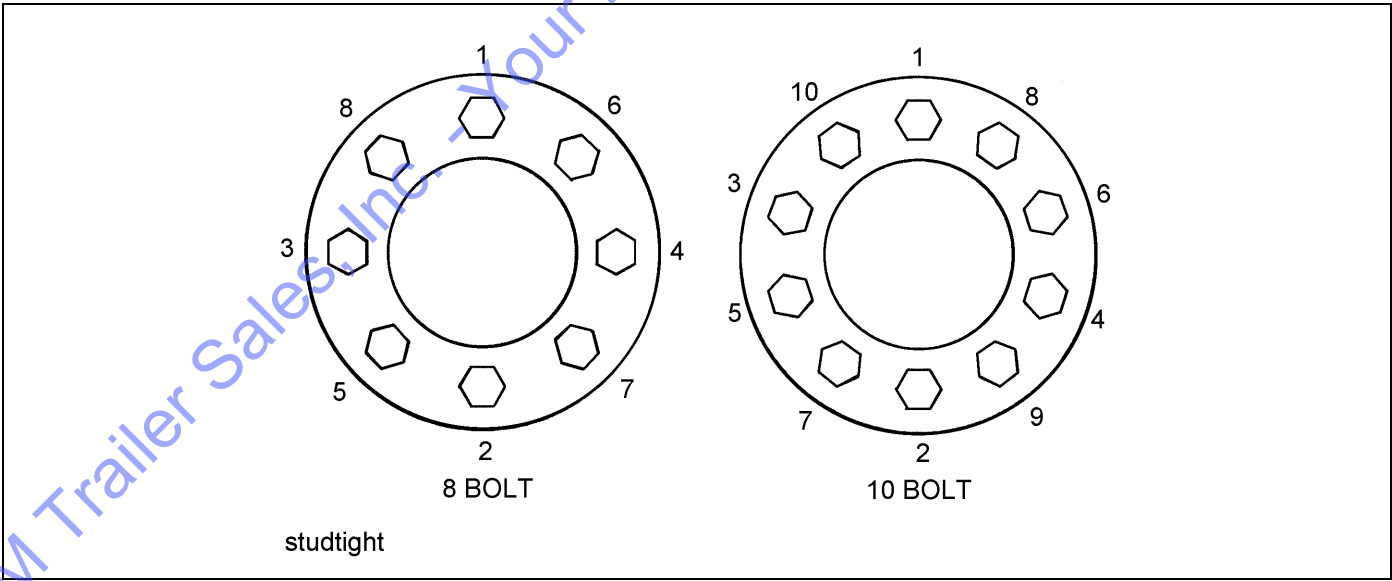

Figure 4-17: Stud Tightening Sequence
3. Install the inner capnuts on the studs and tighten to fifty foot-pounds using the sequence illustrated in **Figure 4-17**. Make certain that the left-handed threads are installed on the driver side of the vehicle and the right-handed threads are installed on the curbside of the vehicle.
4. Tighten the inner capnuts to full torque of 450 to 500 foot-pounds using the sequence shown in **Figure 4-17**.
6. Install the outer capnuts and tighten to 50 foot-pounds using the sequence in **Figure 4-17**. Then tighten to full torque of 450 to 500 foot-pounds using the same sequence.
|                                                     | Improper tightening sequence                                            | Follow proper tightening sequence (See Figure 4-17. )                                 |